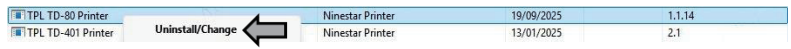

Fig.20
① Open the Control Panel on your computer and select Uninstall a program. In the list of installed programs, locate the driver you wish to remove. Right-click on the target driver and select uninstall/change to enter the driver uninstallation interface (see Figure 20);